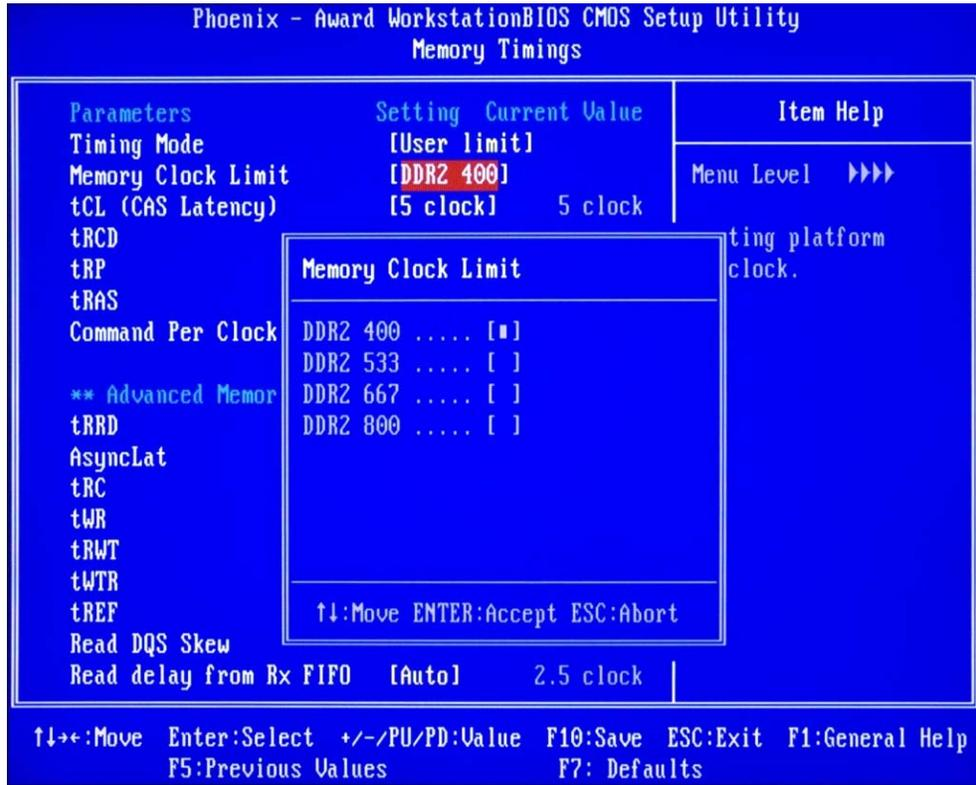

Figure 4. Memory Settings for CPU Reference Clock Overclocking
Set memory frequency as low as possible from the **Memory Timings** BIOS menu, as shown in Figure 4:
Note: In the **Memory Timings** BIOS menu, make sure **Memory Clock Limit** is set to **[DDR2 400]** as shown in Figure 4.
2. Set memory frequency as low as possible from the **Memory Timings** BIOS menu so they have exactly the same values as shown in Figure 4.